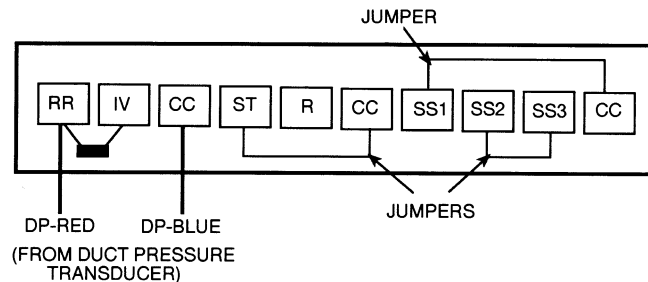

Fig. 34 — VFD Factory-Installed Jumpers
2. Remove the jumper between CC and ST on the terminal strip of the VFD (see Fig. 34).
4. On the front of the VFD is a keypad and display which will be used to enter the set point. To access this field, press “SETUP” key, then press the “SETUP” key 6 times to scroll to the sixth parameter, which will display “Sr1.” This is the VFD set point listed in Table 7.